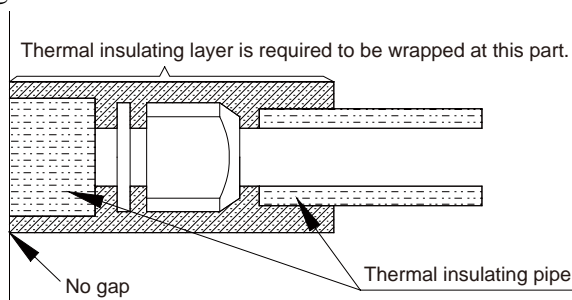

Fig. 9
(2) The joints of the indoor unit should be wrapped with the insulating material with no gap allowed on the joint of the indoor unit, as shown in Fig. 9.